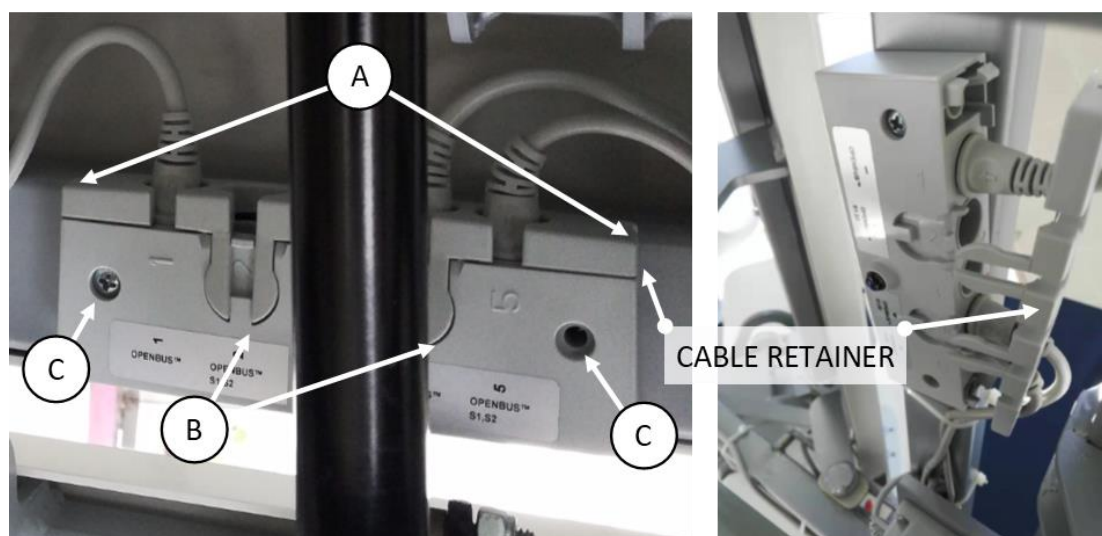

Figure 18: Junction Box with Cable Retainer
- b) Release junction box cable retainer (8) by inserting a small flat screwdriver into the slots on the front of the junction box to release the clips (A) (refer figure 18).
- c) Pry off retainer by inserting screwdriver under the two tabs (B) on the bottom face of the junction box (figure 18).
- e) Unplug the control cables (10, 11 & 22) and blanking plug/s (9) (if fitted) from the junction box.
- f) Remove two pan head self-tapping screws (C) securing the junction box to the bed frame (figure 18).
- Release junction box (8) cable retainer by inserting a small flat screwdriver into the slots (A) on the front of the junction box and pry off tabs (B) – refer figure 18
- Release junction box (8) cable retainer by inserting a small flat screwdriver into the slots on the front of the junction box to release the clips refer section 19, figure 18.
- Unplug the attendant control (22) cable from the junction box (8).
- Cut and remove cable ties securing attendant control (22) cable to the bed frame.